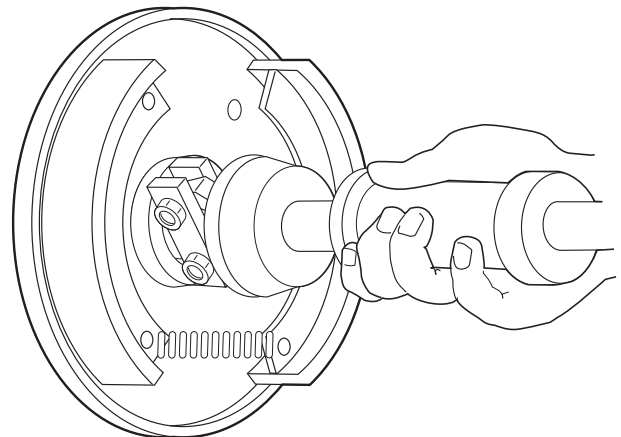

Figure 6 Removing Seal
2. Use a puller to remove the seal (Ref. Figure 6).